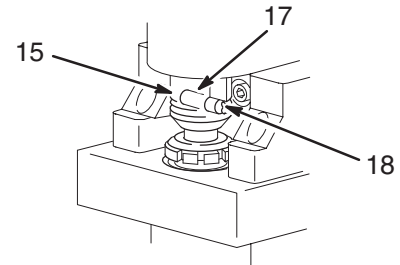

Fig. 10
2. Try to stop the pump with the piston rod (107) in its lowest position. To lower the piston rod manually, rotate the motor fan blades. Use a screwdriver to push the retaining spring (18) up and push out the pin (17). See Fig. 10.